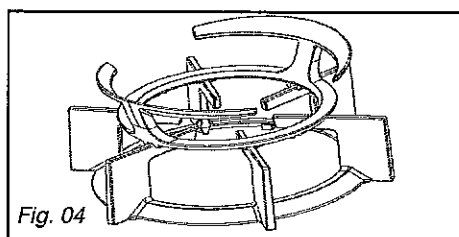

Fig. 04
- **Adjust the hob connections:** these are located underneath the knobs (*Fig. 04*).
This wok type grid allows you to use concave cookware. Supplied only for "high power" burners, it provides better flame distribution under large receptacles such as woks (Fig. 04).